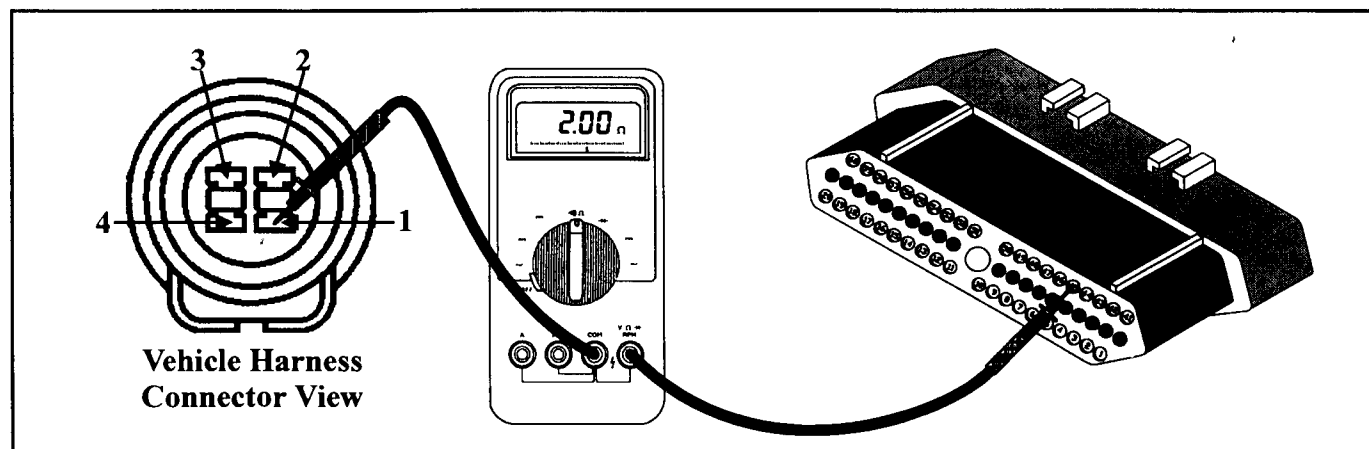

Figure 25
- Perform a continuity check across terminal 1 in the distributor vehicle harness connector to the number 45 wire in the TCM connector as indicated in Figure 25. If there is no continuity, repair or replace the wire.